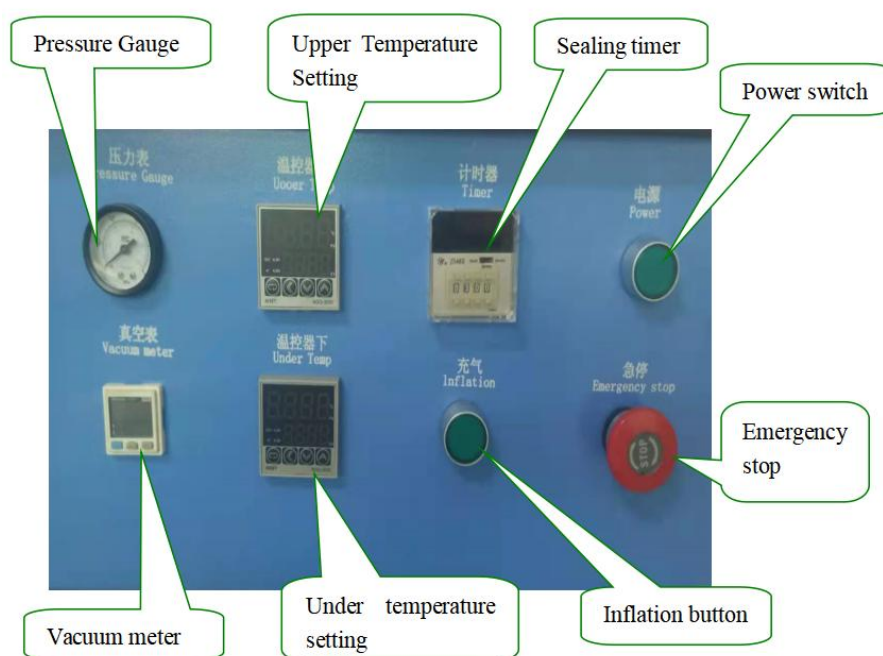

Figure 2
*Temperature setting: As shown in Figure 2, the green number displayed on the thermostat indicates the